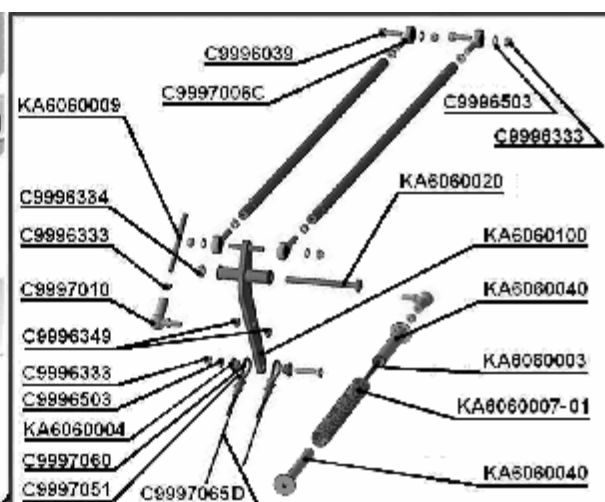

Fig. 1.4
3. Install the bracket KA3010120 with the trim tab bellcrank KA606100 (Rocker), Fig. 1.4, on the fuselage as follows. Match holes in the bracket with holes in the bearings C9997025. Insert the axle KA3010001 through the left hole in the bracket, hole in the left bearing C9997025, spacer KA3010002, right bearing C9997025, and right hole in the bracket KA3010120.
9. Connect trim tab control rods KA6060010 (Rod) with an 8x10 wrench and 4 hex-nut wrench. Tighten the nuts C9996333 (Self-locking nut DIN 985-M5) to torque 49 lb-in (5.5 N\*m) (Fig. 1.4). Make sure that rod tips C9997006C (Rod end bearings, ext. thread GA5) are secured by C9996333 (Self-locking nut DIN 985-M5) to torque 49 lb-in (5.5 N\*m).
11. Connect the rod KA6060003 (Rod) together with the trim tab returning spring KA6060007-01 (Spring), that is attached to the fin wall, and telescopic guide KA6060040 (refer to Fig. 1.4) to the third counting from the bottom hole in the trim tab control bellcrank.